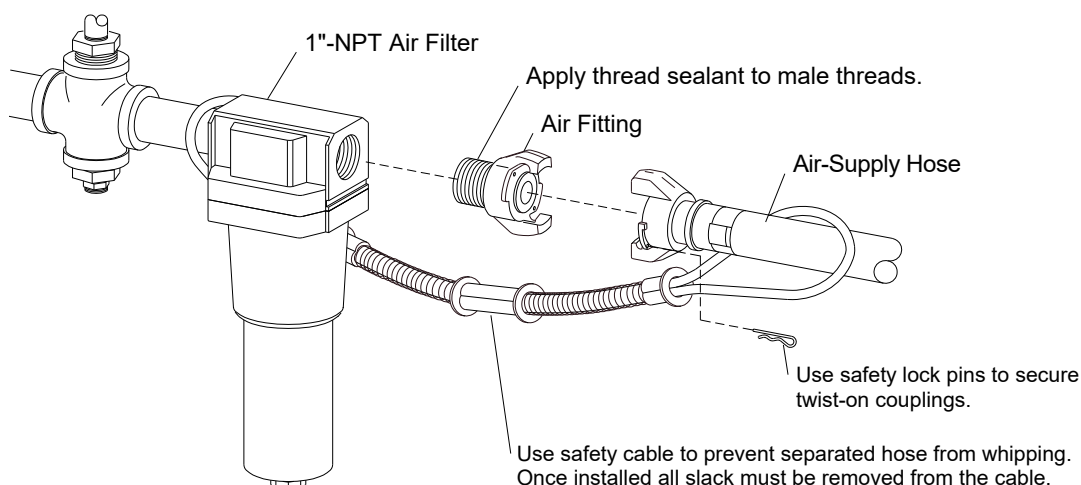

Figure 9
2.9 Connect Compressed-Air Supply Line(s) Figure 9
2.9.1 Apply thread sealant to the male threads of an air fitting that is compatible with the air-supply hose fitting, as noted in Section 2.9.2, and install it onto the 1"-NPT air filter located at the blast machine inlet, as shown in Figure 9. Note that the style of connection shown in Figure 9 is for reference only.